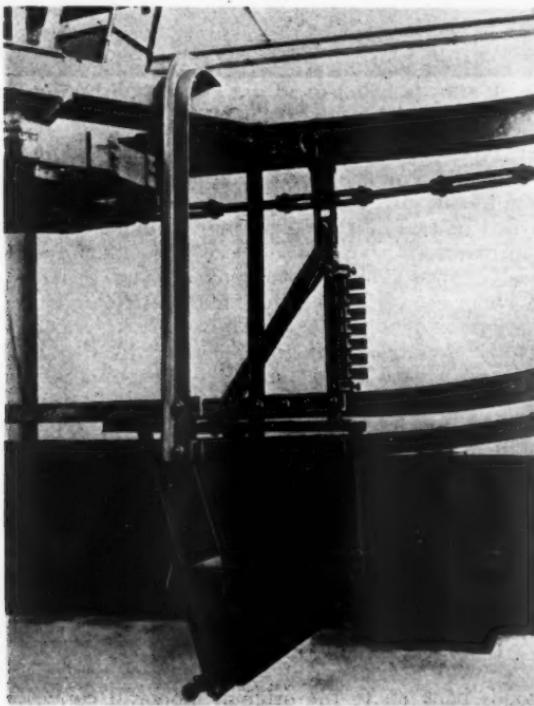
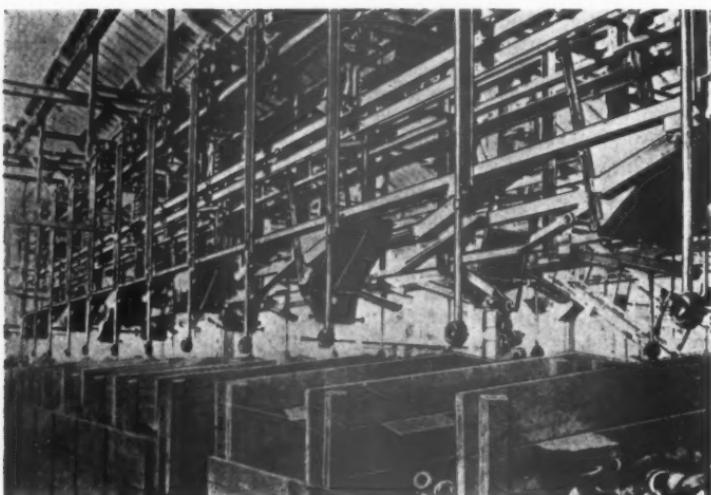

FIG. 14.
FIG. 15.-
**LOADING AND UNLOADING** Automatic loading and unloading devices of various types have been made to suit different conditions, and I would like to show a few types. In Fig. 14 can be seen a bucket which was used for carrying small forgings from the inspection department to the stores. Between the bucket and the chain is a row of selecting fingers, by which it is possible to select from a large number of stations the one at which the bucket will be unloaded. These fingers are set at the loading station. Fig. 15 shows the unloading stations which can, of course, be located anywhere in the factory. It will be observed that about twelve stations are shown out of a total of seventy-four. The fingers on the bucket operate electric cam switches when the bucket comes to its correct station, and these in turn energise a solenoid which drops a ramp in front of the wheels on a sliding door at the bottom of the bucket. These wheels run up the ramp and lift the door so that the load is discharged from the sloping bottom of the bucket. One of the buckets can be seen discharging into a bin.